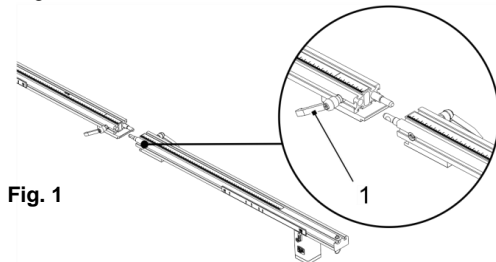

Fig. 1
- Push together the optional two-part measuring bar and clamp the locking lever (1, Fig. 1) on both sides.